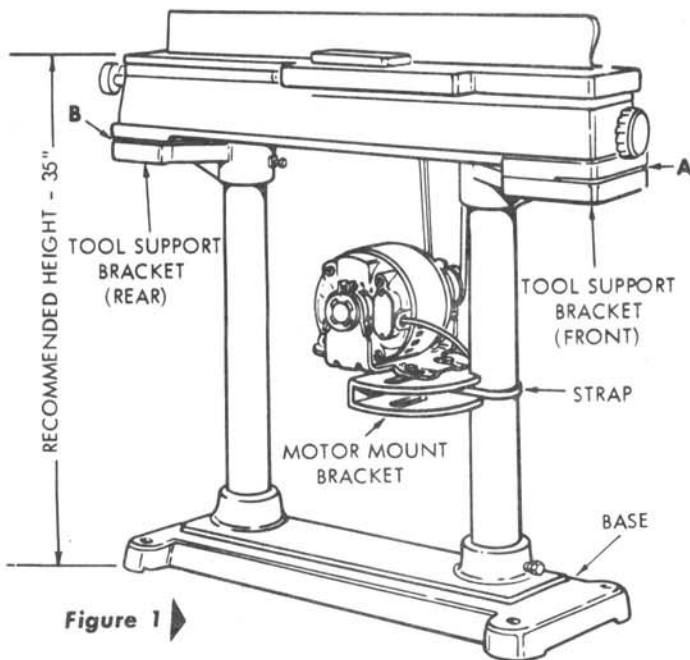

Figure 1 ▶
4. Attach the motor loosely to the motor support bracket and insert the retainer strap into the bracket. (See figure 3.) Slide the assembled motor and support over one of the columns (shown in figure 1) and locate it at the approximate motor mounting position. Tighten the strap nuts just enough to hold the motor support temporarily in position.
CAUTION: Top (mounting) surfaces of the supports (shown at A and B, figure 1) must be at a uniform height from the floor to permit proper mounting of jointer.